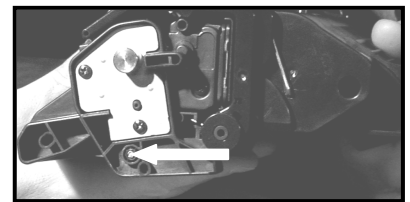

Figure 1A
1. Lay the HP 5000 cartridge on its top. Locate the retaining pins and push them into the cartridge until they are free (Figs. 1A & 1B). It is important to have the cartridge lying on its top or the pins could damage the OPC when they are pushed through. Separate the two halves being careful not to damage the OPC with the shutter assembly. Set the toner hopper aside.